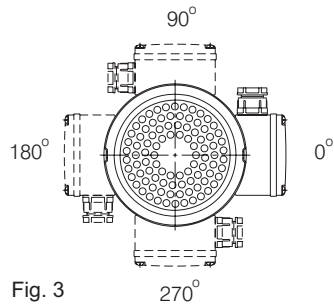

Fig. 3
- 5.6 The position of the motor connecting box is adjustable. Referring to Fig.3, the adjustment can be done by removing the motor fan cover, unscrewing the frame bolts, turning the motor casing and connecting box subassembly together to proper position. Finally, screw the frame bolts tight, and put the fan cover back.
5.6 本產品馬達接線盒為可移動設計，如第 3 頁 Fig.3 所示：調整步驟首先將馬達及泵浦間固定螺絲拆下後再旋轉泵浦至預定位置，再將固定螺絲鎖緊並將風罩裝回即可。